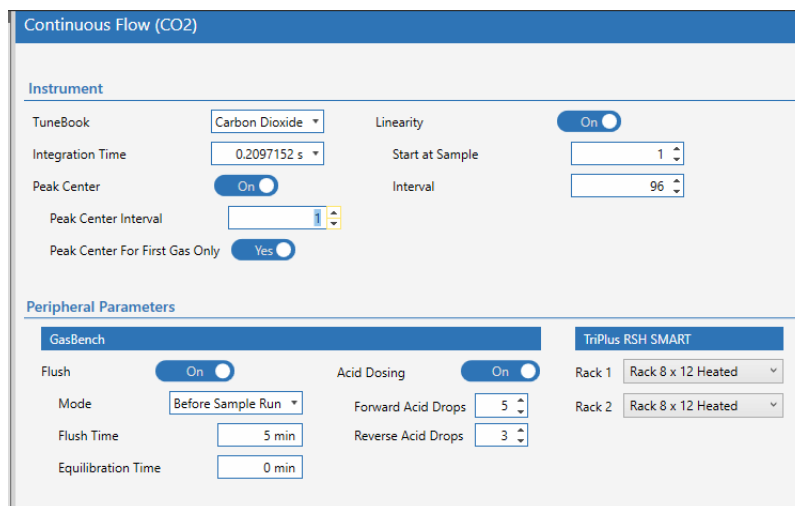
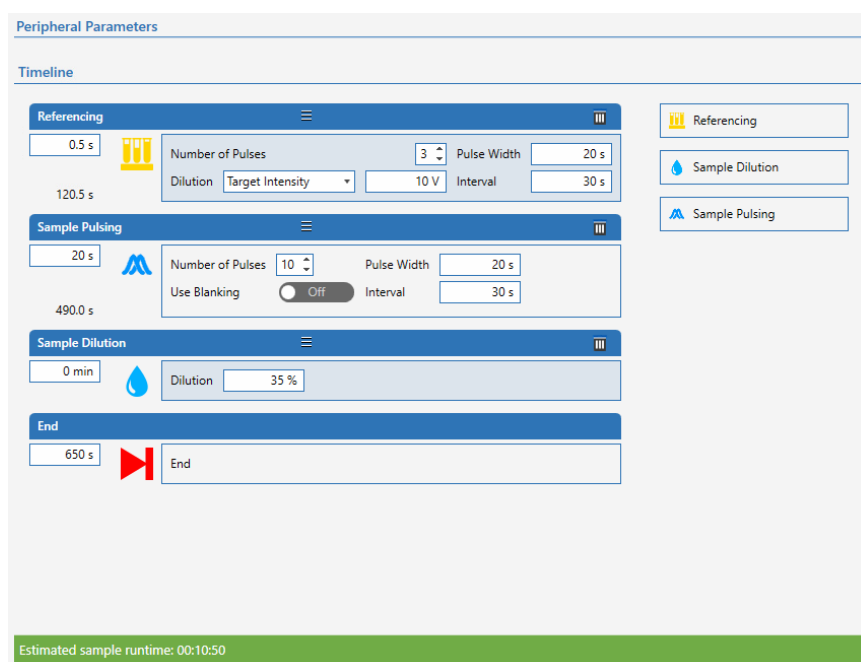

Figure 9-47. Peripheral preparation for carbonates, e.g., with purge (flush) and acid dosing as well as sample pulsing and sample dilution in one LabBook
Figure 9-48. Carbonate workflow with acid dosing and flushing
Certain preparation processes can be done automatically with Qtegra within one LabBook under the peripheral parameters (see Figure 9-47). Tool changes will be switched or requested automatically.
1. The whole preparation and measurement (see Figure 9-48) is done in one LabBook with
- a. Flush of all samples. Flush can be done before or during the LabBook is running (see Figure 9-47, Figure 9-48).
- d. Measurement with sample if the sample response is too high (see Figure 9-47), e.g. for soil or DIC samples with an unknown carbonate concentration.
Deviations for the process if sample have been processed according to the purge & acid addition (see Figure 9-48).